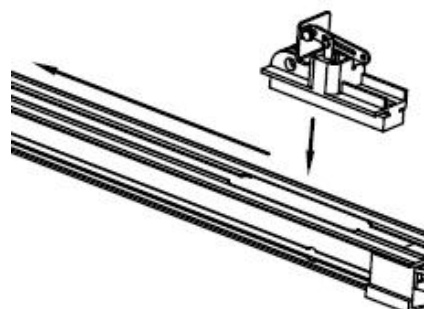

**Fig.6**
1. Fixing the wall bracket(A) to the wall 2cm-15cm over the shaft or intermediate bracket , and should be center horizontally. (depending on the actual installation space).
2. Fixing the steel track to the wall bracket using axis pin  $\Phi 8 \times 90$  (B) and cotter pin. (Fig. 6)
6. Fix the door bracket (E) to the top edge of the door (should be in the middle and under the wall bracket)
7. Connect the bent arm (G) to the door bracket using a  $\Phi 8 \times 25$  axle pin and cotter pin as shown in Fig. 6.
8. Install the shuttle(F) to the track (be sure it faces the right direction as shown in Fig.8), tie the clutch cord. Connect the straight arm ( H) to the clutch using a  $\Phi 8 \times 25$  axle pin as shown in Fig.6.